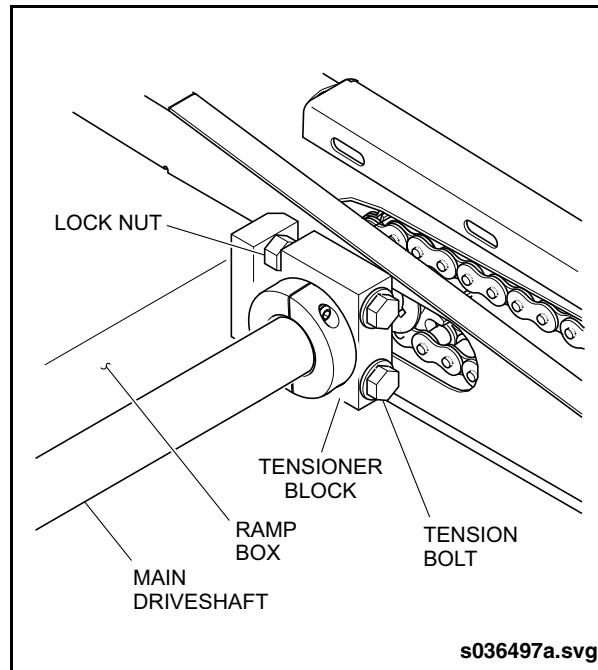

Fig. 20-8: Tensioner Block
2. Relieve chain tension by loosening the lock nuts and two bolts from each of the tensioner blocks. See "Fig. 20-8: Tensioner Block" on page 16.